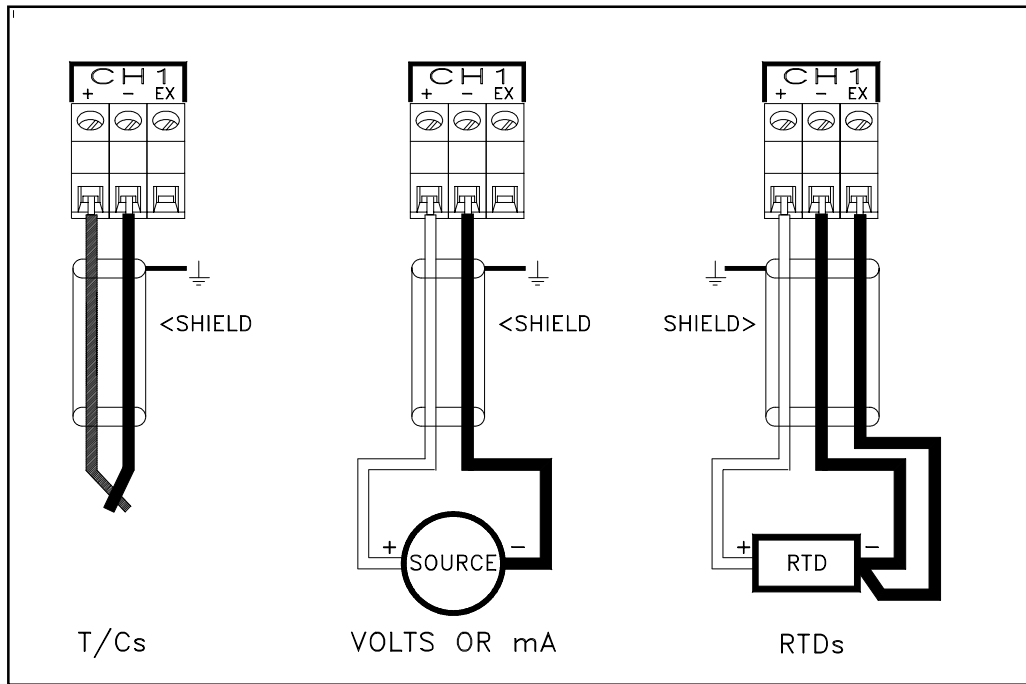

Figure 2-8 Transducer Connections
2.3.3.1 Thermocouple Inputs - Thermocouple input connections are made as shown in Figure 2-8 above - T/Cs.
2.3.3.2 Resistance Temperature Detector (RTD) Inputs - For RTDs, use three wires having equal resistance to eliminate errors resulting from lead length variations. Use 14 AWG copper wire for any long lead runs. See Figure 2-8 above for connections and refer to RTD manufacturing specifications to determine color code polarity.
Connect **CURRENT** and **VOLTAGE** inputs as shown in Figure 2-8 above.